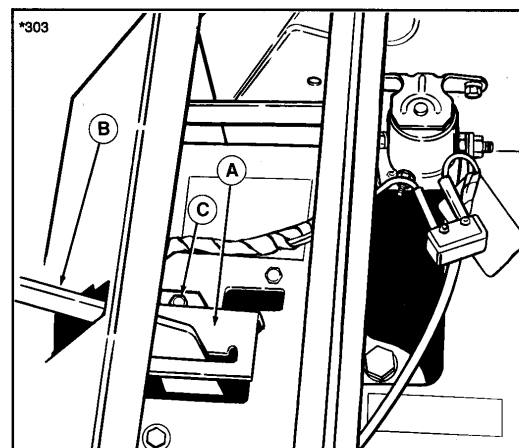

Figure 40. Control Lever Quadrant
2. Raise the seat deck. The control lever quadrant (A, figure 40) is mounted with slotted holes so it can be adjusted. Loosen the two self-tapping screws (C) and move the quadrant so the screws are centered in the quadrant slots. Then tighten the two screws.